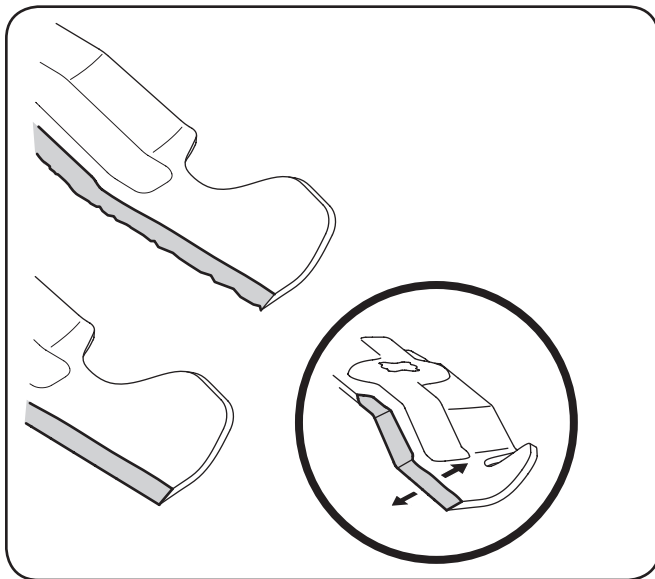

Figure 7-6
- To properly sharpen the cutting blades, remove equal amounts of metal from both ends of the blades along the cutting edges, parallel to the trailing edge, at a 25° to 30° angle. Always grind each cutting blade edge equally to maintain proper blade balance. See Figure 7-6.